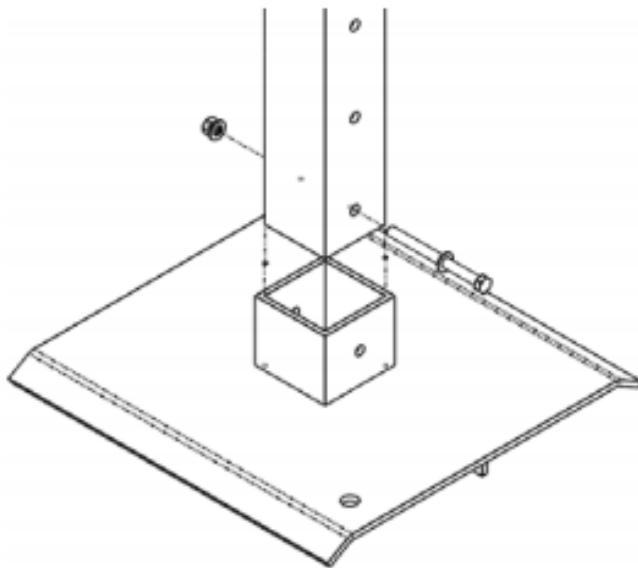

Figure 3
- 1) Attach one (1) Foot Pad to the end of one (1) Square Tube Leg from previous step and align as shown in Figure 3.
- 2) Attach one (1) 3/8" Flat Washer to one (1) 3/8" Hex Bolt and insert through hole(s) in the Foot Pad and Square Tube Leg as shown in Figure 3.
- 3) Attach one (1) 3/8" Lock Washer and one (1) 3/8" Hex Nut to the protruding end of the Hex Bolt and securely fasten with appropriate wrench until secure.
- 4) Repeat these steps for the remaining three (3) Foot Pads.